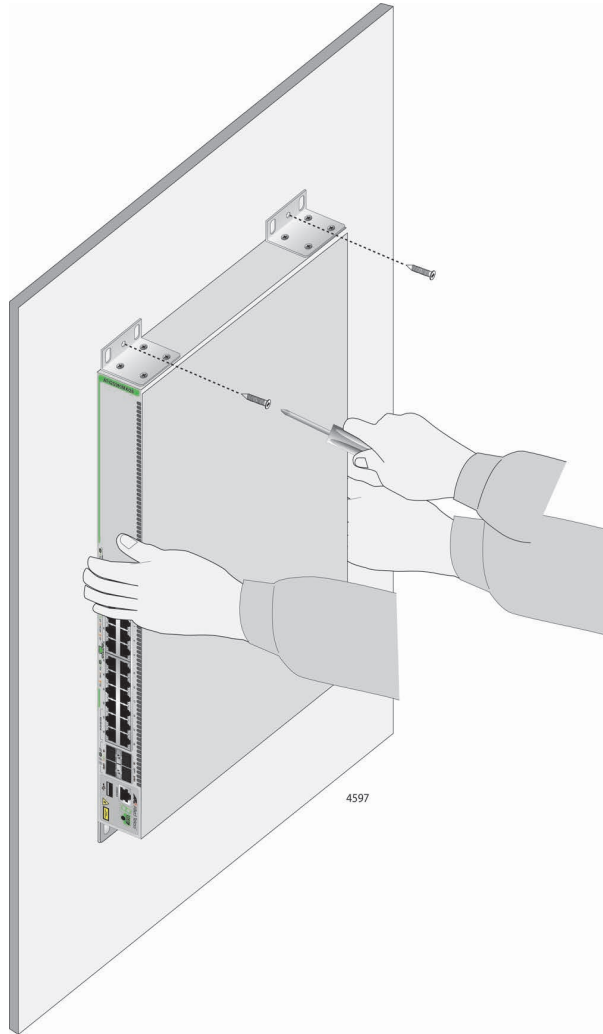

Figure 51. Installing the Switch on a Concrete Wall
8. Have another person hold the switch at the selected wall location while you secure it to the wall with the M4x32mm screws provided. Refer to Figure 51.